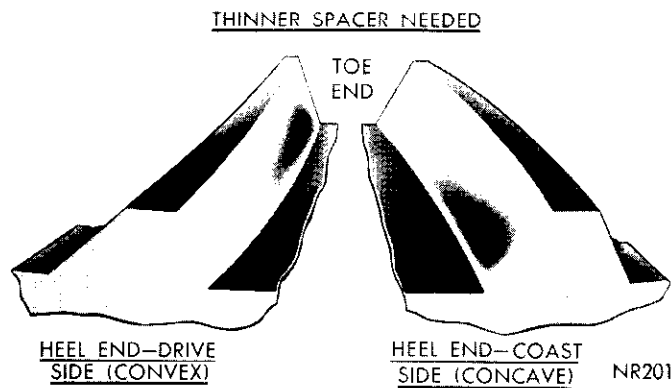

Fig. 30—Incorrect Tooth Contact Pattern (Decrease Spacer Thickness)
(4) If after observing the contact pattern and you find it resembles that in Fig. 30, the drive pinion is too close to the ring gear, the pattern will appear low on the toe on drive side and low heel contact on coast side. To correct this type tooth contact pattern, de-